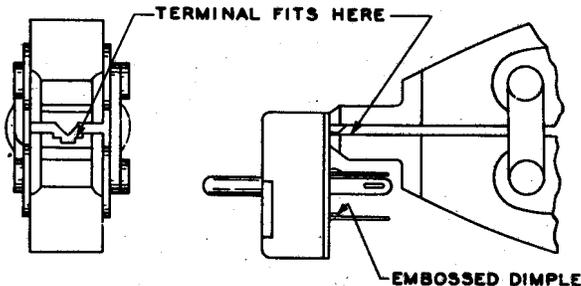

Fig. 2 - View of the EXP-9015 Pliers and Method of Placing Over the Terminal
3.07 Insert a new terminal into the block from the front side. Then insert the mating component, as listed in Table A, fully to hold the new terminal in place. Place the EXP-9015 pliers over the new terminal, as shown in Fig. 2, and press a